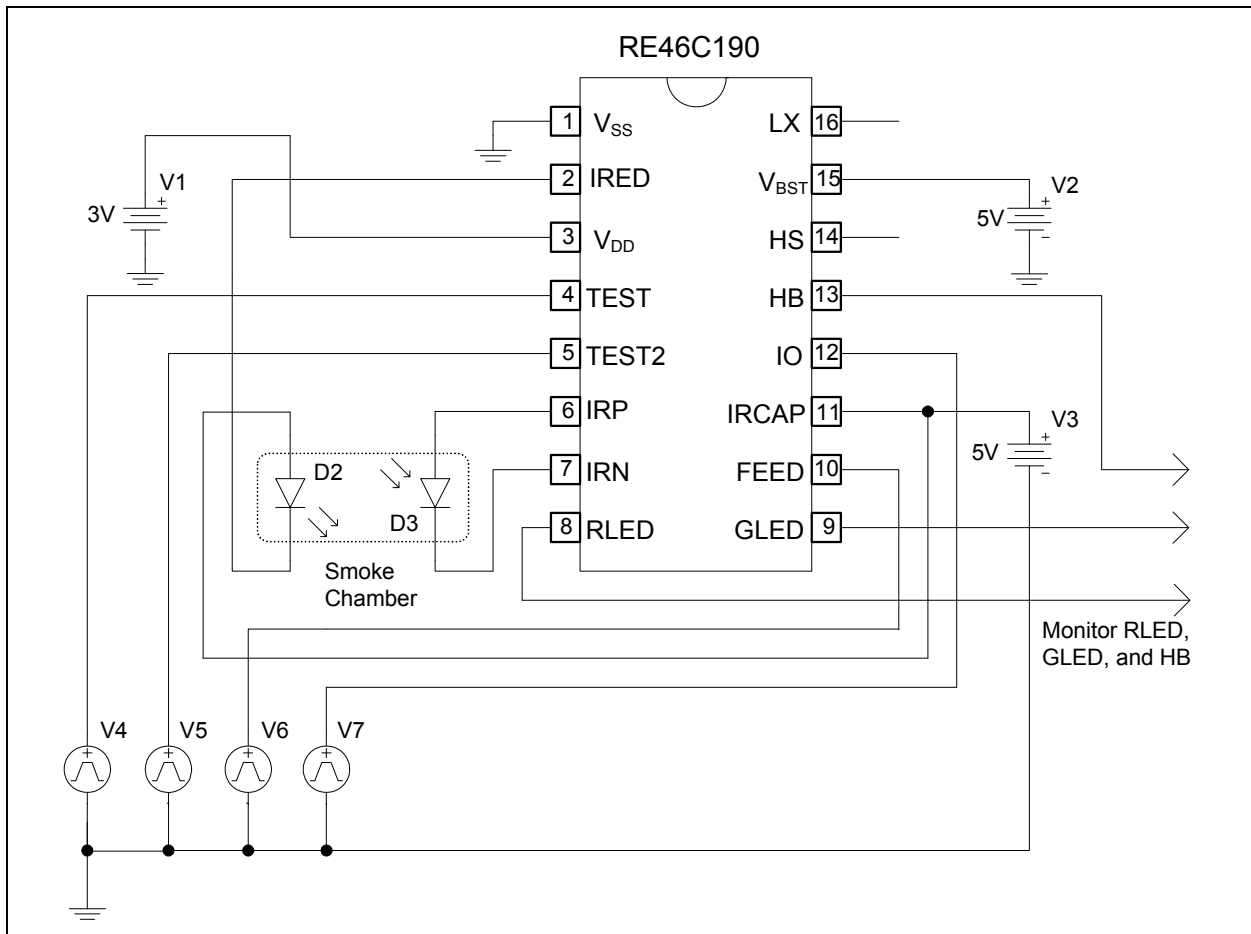

FIGURE 4-1: Nominal Application Circuit for Programming.
1. Power up with bias conditions as shown in Figure 4-1. At power-up
1. Power up with the bias conditions shown in Figure 4-1.
1. Set up the application as shown in Figure 4-1.